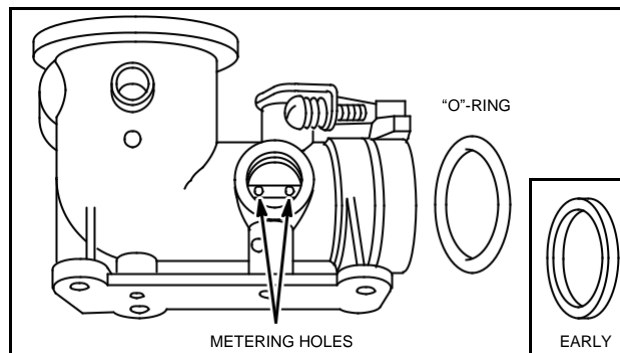

Fig. 146 - METERING HOLES AND "O"-RING, TYPICAL
1. Remove and discard "O"-ring, Fig. 146.
4. DO NOT ALTER SIZE OF HOLES, Fig. 146.